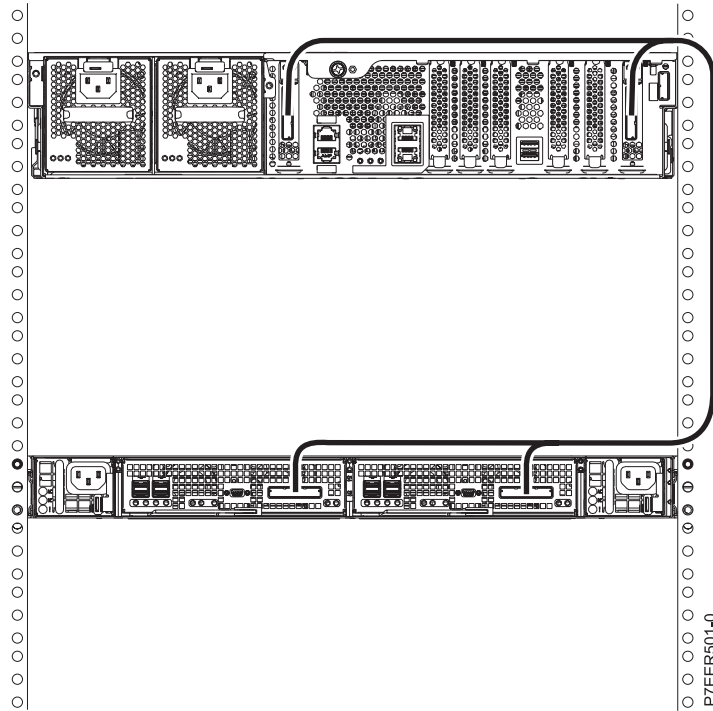

Figure 42. One EDR1 PCIe storage enclosure connected to an 8231-E2D system by using two FC EJ0H PCIe2 GX++ adapters and two PCIe cables
Figure 42 on page 32 shows an example of connecting an EDR1 PCIe storage enclosure to an 8231-E2D system by using two feature code (FC) EJ0H PCIe2 GX++ adapters and two PCIe cables.